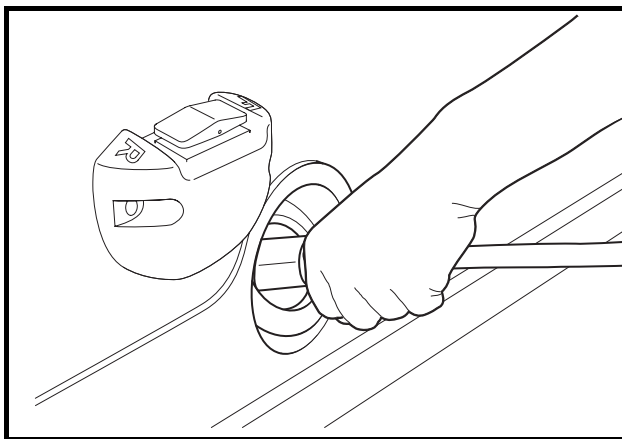

Figure 27 Correct Insertion of Charger DC Plug
- Do not rock or bend the plug. To connect the charger plug to the vehicle receptacle, grasp the plug handle and push the plug straight into the receptacle (Figure 27, Page 41).
Insert the charger DC plug into the vehicle receptacle. The charger will turn on two to ten seconds later **(Figure 27, Page 41)**.